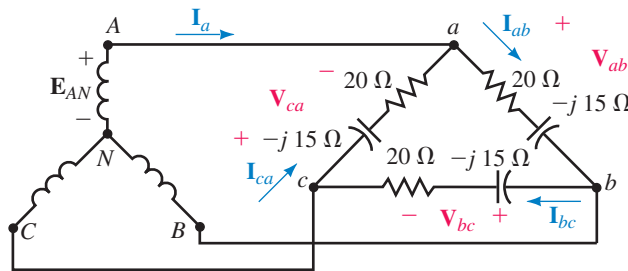

FIGURE 24–48 Balanced system.
- For the load of Figure 24–47, $\mathbf{V}_{an} = 347\ \text{V}\angle 15^\circ$. Determine all line currents. Sketch their phasor diagram.
8. For the load of Figure 24–47, if $\mathbf{I}_a = 7.8 \text{ A} \angle -10^\circ$, determine the phase voltages and line voltages. Sketch their phasor diagram.
11. For the circuit of Figure 24–48, $\mathbf{V}_{ab} = 480 \text{ V} \angle 0^\circ$. Find the phase and line currents.
12. For the circuit of Figure 24–48, if $\mathbf{I}_a = 41.0 \text{ A} \angle -46.7^\circ$, find all the phase currents.
13. For the circuit of Figure 24–48, if $\mathbf{I}_{ab} = 10 \text{ A} \angle -21^\circ$, determine all the line voltages.
14. For the circuit of Figure 24–48, if line current $\mathbf{I}_a = 11.0 \text{ A} \angle 30^\circ$, find all the phase voltages.
18. Consider Figure 24–13(a). Show that $\mathbf{I}_a = \sqrt{3} \mathbf{I}_{ab} \angle -30^\circ$.
21. For Figure 24–49, $\mathbf{V}_{an} = 120 \text{ V} \angle 0^\circ$. Draw the single-phase equivalent and: